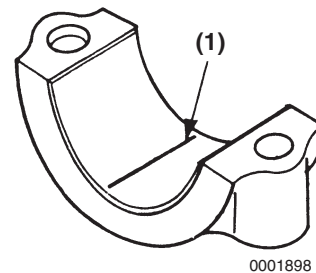

Figure 5-109
3. Place a piece of PLASTIGAGE® (**Figure 5-109, (1)**) along the full width of the bearing insert. **NOTICE:** Do not rotate crankshaft when using PLASTIGAGE. A false reading may result.